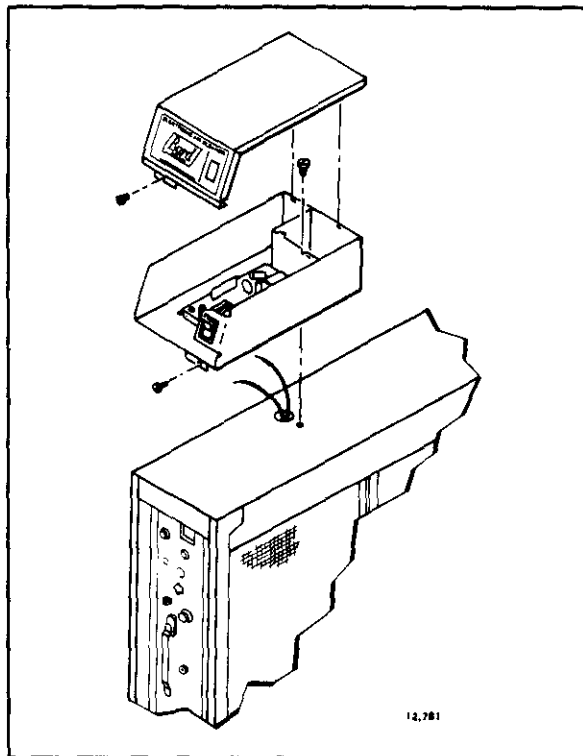

FIG. 15—DISCONNECT THE WIRES AND REMOVE THE POWER BOX.
- Disconnect the leadwires from the ionizer and collector terminals on the power supply board. See Fig. 15.